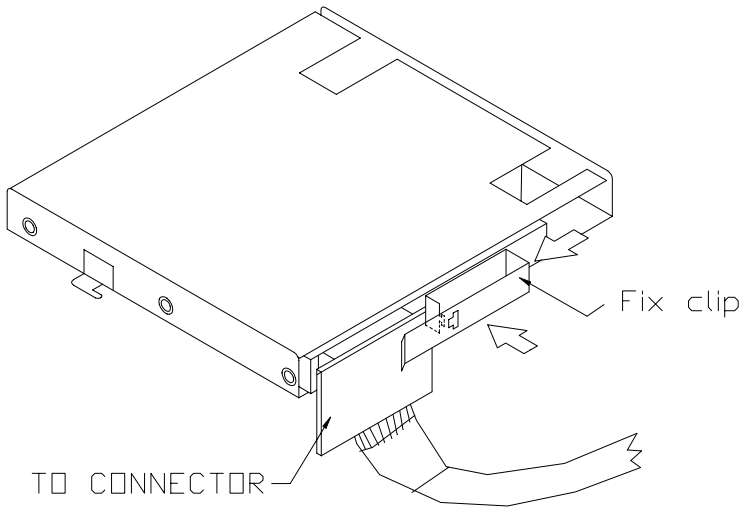

Figure 2-9: Attaching the connector to the CD-ROM
4. The securing ("fix") clip is located on back of the CDR-950-24X. Move the short arm of the clip so that the lug at its end engages into the hole in the long arm of the clip. Then press the connector tightly onto the CD-ROM. (See Fig. 2-9.)